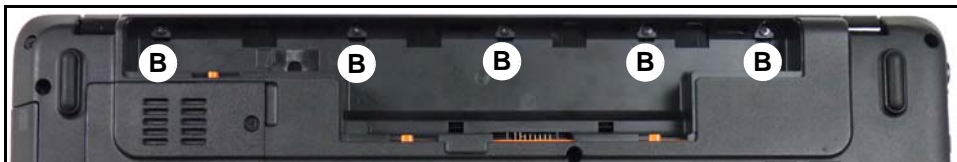

Figure 3-32. Battery Bay Screws
2. Remove five (5) screws (B) from lower cover battery bay. (Figure 3-32)
5. Install and secure five (5) screws (B) to lower cover battery bay. (Figure 3-32)